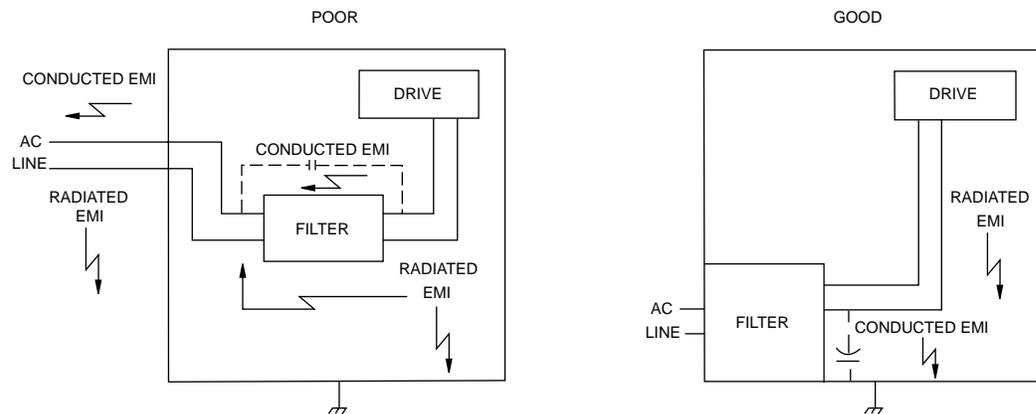

Figure C.2 AC Line Filter Installation
3. The wires connecting the AC source to the filter should be shielded from, or at least separated from the wires (or strap) connecting the drive to the filter. If the connections are not segregated from each other, then the EMI on the drive side of the filter can couple over to the source side of the filter, thereby reducing, or eliminating the filter effectiveness. The coupling mechanism can be radiation, or stray capacitance between the wires. The best method of achieving this is to mount the filter where the AC power enters the enclosure. Figure C.2 shows a good installation and a poor installation.